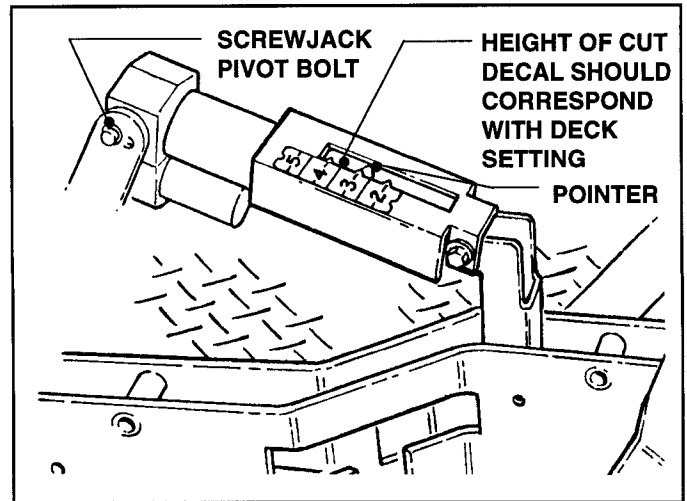

FIGURE 8.12
- B. When Deck is at desired cutting height, release Switch and observe Height of Cut Decal located on the upper right top side of the Deck. See Figure 8.12.
- C. Check to make certain that Blade-to-Ground distance is the same as indicated on Height-of-Cut Decal. If not, loosen the Screwjack Pivot Bolt and adjust Pointer to correct reading on Decal. Refer to Figure 8.12.